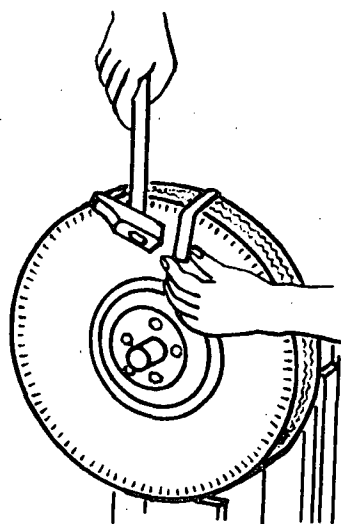

Fig. 5
- c) Select the counterweight indicated by the machine and fit it on (fig. 5).